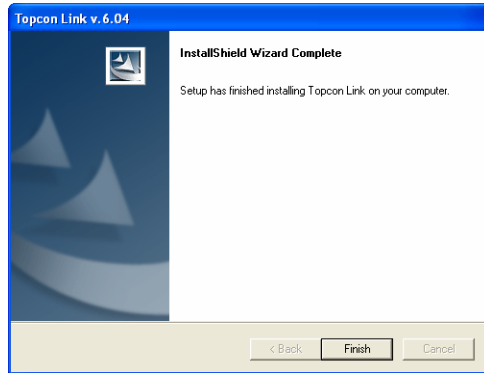

Figure 1-3. Installation Complete
- Click **Finish** to exit the installation (Figure 1-3).